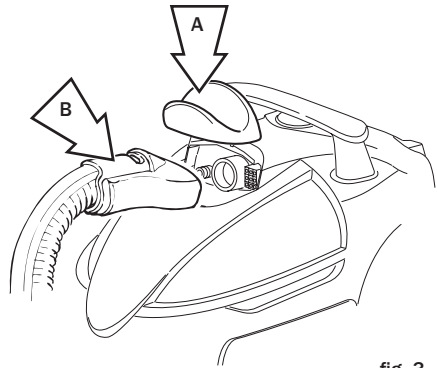

fig. 3
*Connecting the flexible hose (see fig. 3 and 4)*